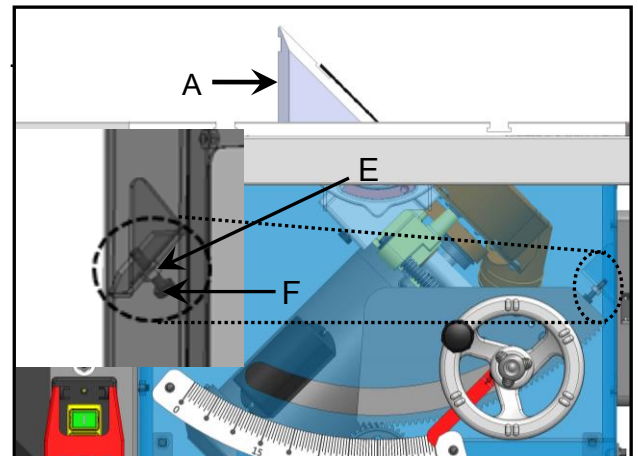
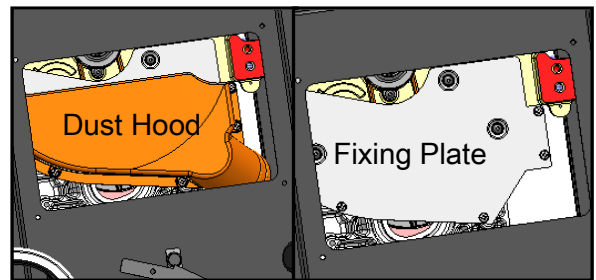

Fig. 27
Fig. 32
Verify the 45° setting by tilting the blade as far as possible to the left and using the square, check the angle and if needed adjust as for the 90° stop, this time remove the storage box H, Fig.27 by phillips screw driver then loosen the Hex. Nut E, Fig.27 then turn the 45° stop screw F, Fig.27 under the table by Hex. wrench. Turn the hand wheel until the blade is at 45° to the table surface. Then re-tighten the 45° stop screw & Hex. nut until slight resistance is felt. Do not over tighten stop screw.
3. Remove the motor cover G storage box H, Fig.27
4. Remover storage box H, Fig.27 then take off the dust hood by phillips screw driver and fixing plate by M5 Hex. Wrench on the right side, Fig.32